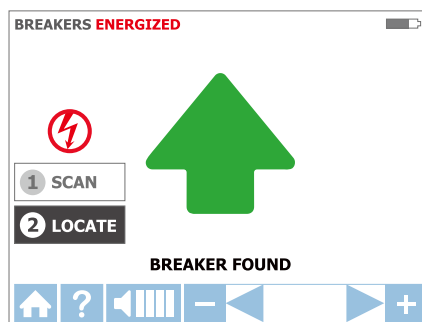

Figure 3.3f: LOCATE mode – breaker/fuse identified
3. Rescan all breakers/fuses until solid green arrow and audible alert indicates that the correct breaker/fuse was found (Figure 3.3f).